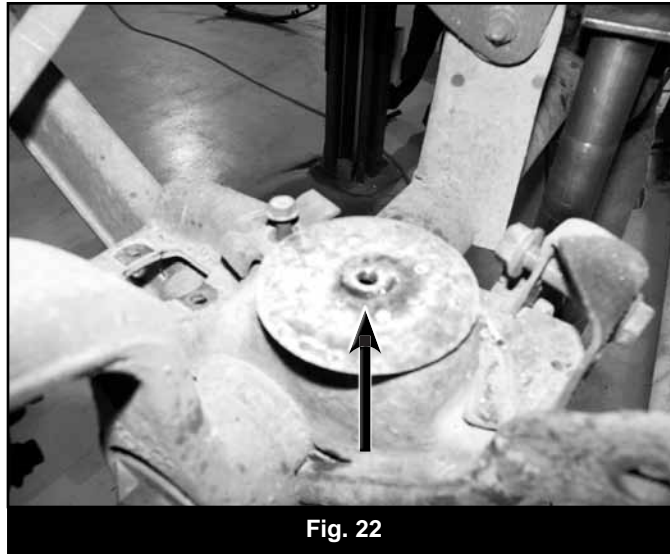

Fig. 22
58. Locate the center of the coil mount on the axle and drill a 11/32 or T size drill (Fig 22). Use a provided 3/8" self-tapping bolt to cut the threads for the bump stop extension (3396). Remove the bolt.